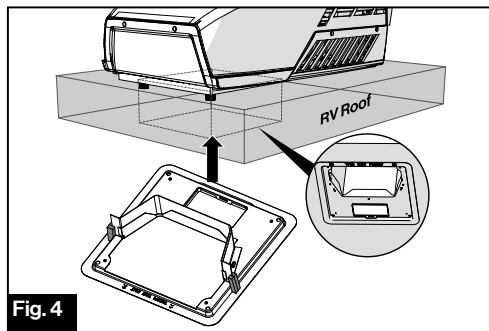

Fig. 4
3. Install the assembled mounting frame and the duct divider into the rooftop opening. Make sure the "THIS WAY FRONT" mark is facing front (the direction of the vehicle) while installing. (Fig. 4) Trim duct divider to provide tight seal.